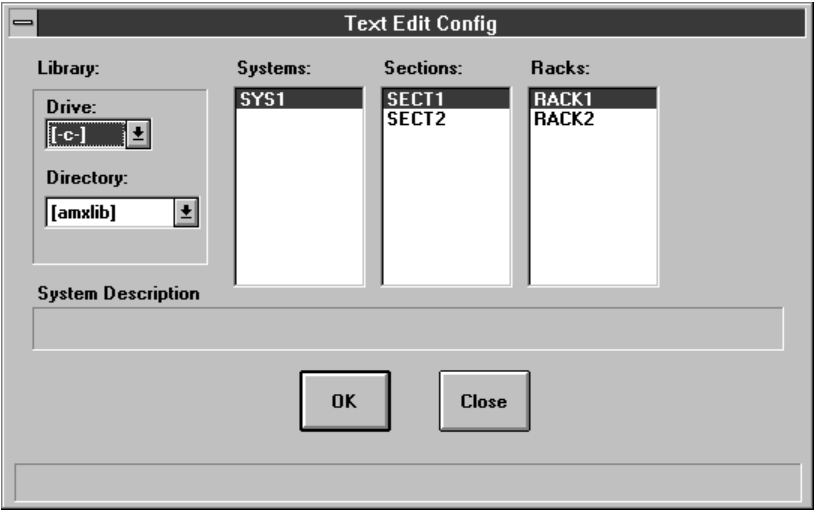

Figure P.1 - Text Edit Config Dialog Box
- Step 4. The "Text Edit Config" dialog box is displayed. Select the drive, directory, system, section, and rack whose configuration you want to edit (see figure P.1). Choose OK to proceed, or Close to exit the utility.